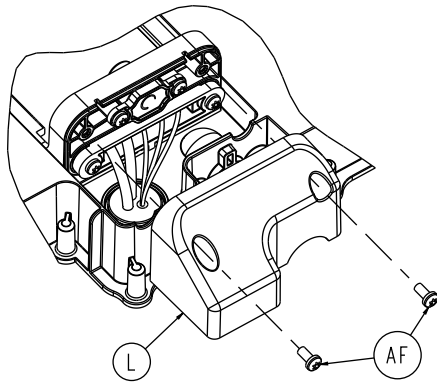

Figure 36 – Remove the battery mount back cover screws
6. Using a T20 Torx driver, remove the two pan head tapping screws (AF) that secure the battery mount back cover (L) to the foot end interface assembly (FEIB) (Figure 36). Save the screws.